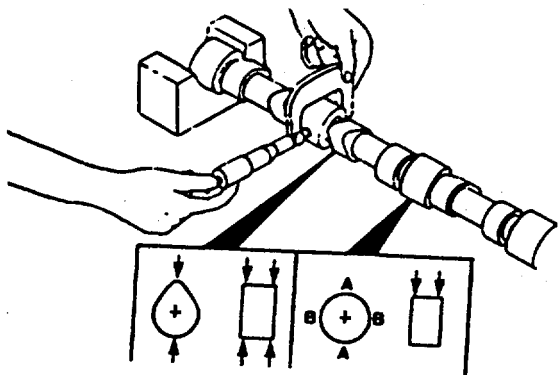

FIGURE 4-29. Measuring Valve and Lift Pump Lobes.
e. Measure the bearing journals. Refer to FIGURE 4-29 and Table 4-5.